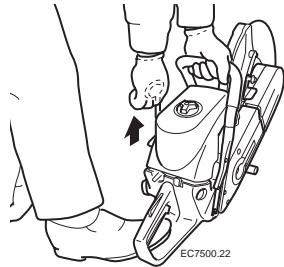

Figure 10.
6. Secure the unit by placing your right foot inside the rear handle and your left hand on the front handle. See Figure 10.